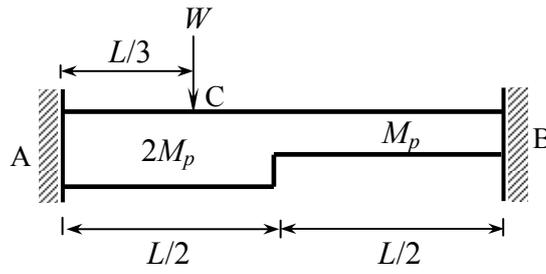

Figure 3.
- (b) Calculate the collapse load in terms of M_p for the fixed beam shown in Figure 3. **07**